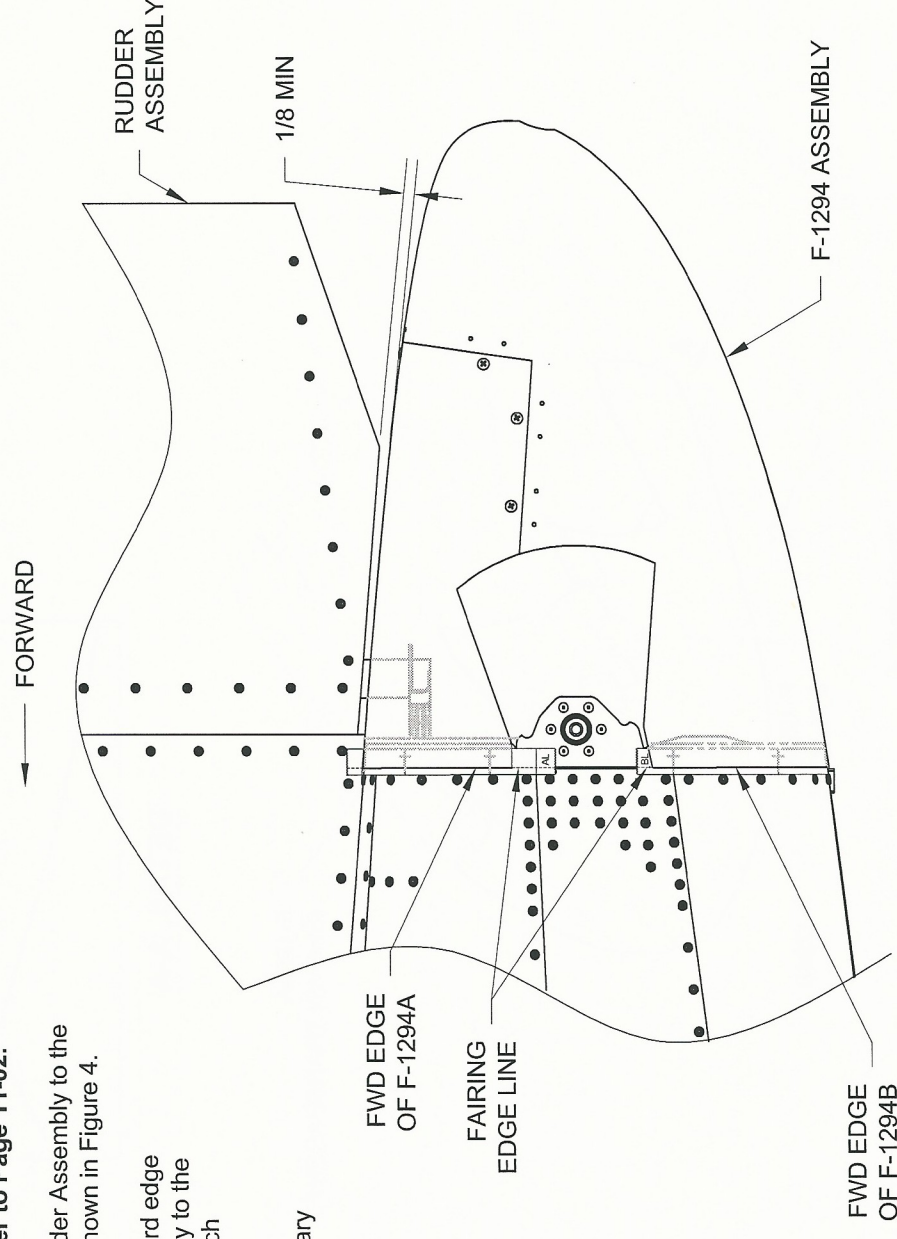

FIGURE 4:
Step 7: Install the Rudder Assembly to the V-Stab Assembly as shown in Figure 4.